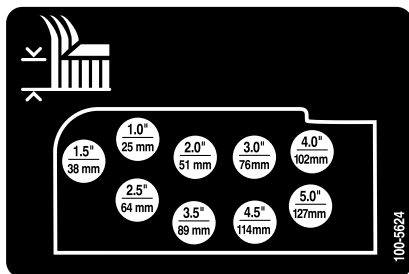

Figure 21
6. Mount the height-of-cut chains to the desired height-of-cut hole (Figure 21) with the clevis pin and hairpin cotter.